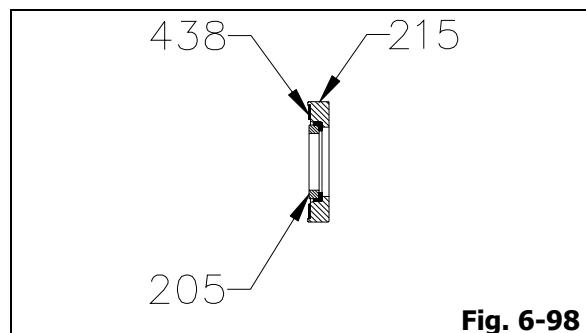

Fig. 6-98
1. Coat atmospheric end mechanical seal (205) seat surface in seal cover (215) with oil. Carefully place the stationary portion of atmospheric end mechanical seal (205) into position and press gently by hand until the shoulder of the seal is fully seated against the seal cover (215). Make sure that the lapped face of seal is facing outside.
2. Install seal cover gasket (438) onto seal cover (215) (Fig. 6-98).